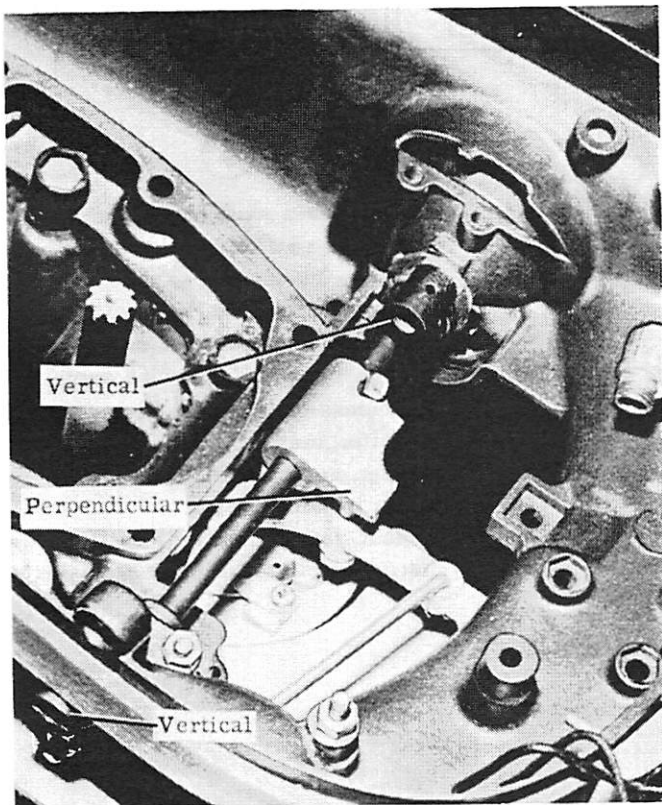

Figure 2. Throttle and Shift Lock Drum and Cross Shaft Lever
5. Remove cross shaft assembly from right side of bottom cowl. (Figure 2)
5. Attach short ground lead of switch to front cross shaft mounting bracket screw. Flat threaded end of cross shaft must be up and throttle and shift lock drum must be vertical to the flat on shaft as shown in Figure 2.